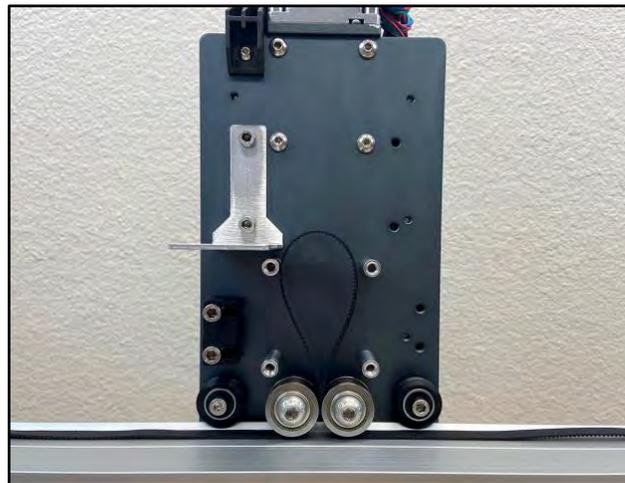

Figure 16
2. Push a large loop of belt up between the idlers. See *Fig. 16*.